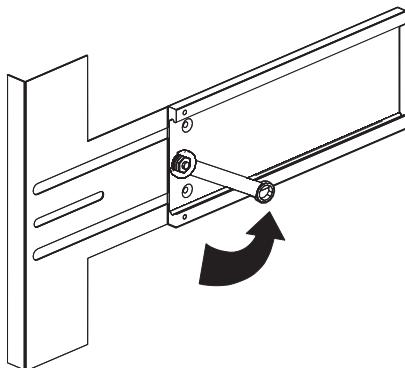

FIGURE 1-17 Removing the Slide Retention Nuts
1. Remove the nut and washer at the rear of each slide assembly (FIGURE 1-17).